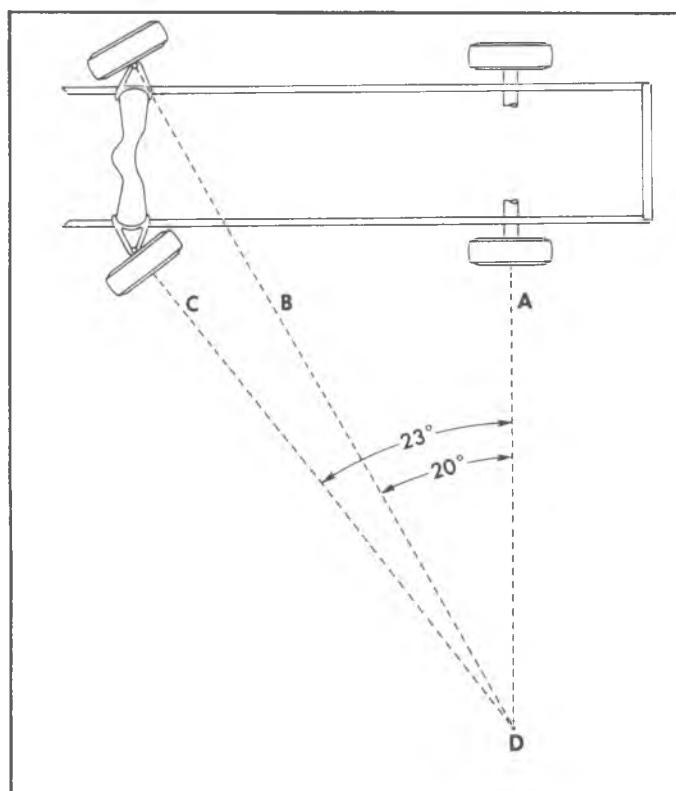

Fig. 15—Toe-out on Turns
TOE-OUT ON TURNS (Fig. 15)
Note in fig. 15 that the right front wheel centerline (B) and the left front wheel centerline (C) intersect the centerline of the rear axle (A) at the same point (D). The 20° and 23° angles are not necessarily representative of any vehicle and are used here for theory only.